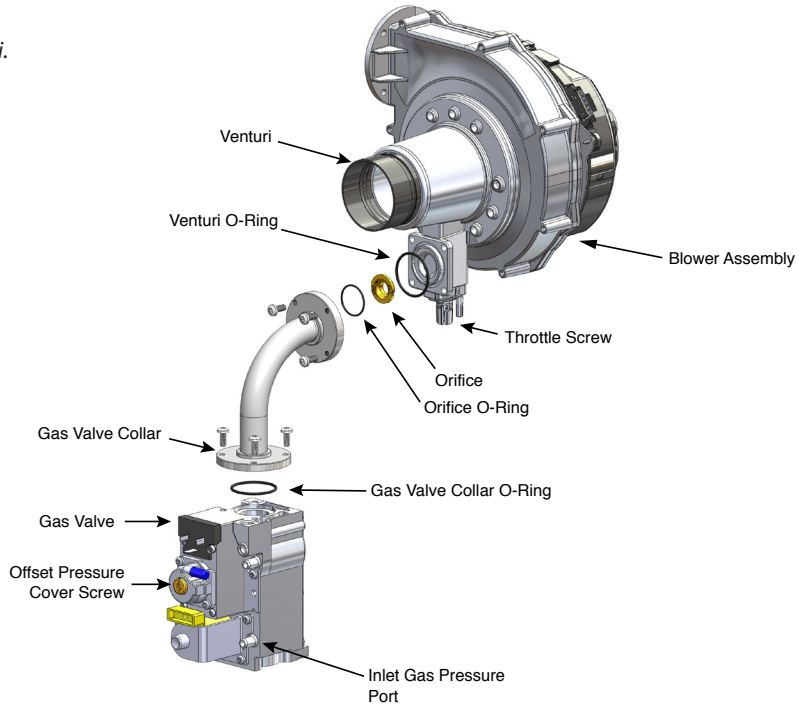

Fig. 19 - Gas Valve / Venturi Assembly - PRESTIGE Solo 299/399 (2)
- The ACVMax control module contains 3 internal replaceable 5A fuses as shown in *Figure 19 below*.